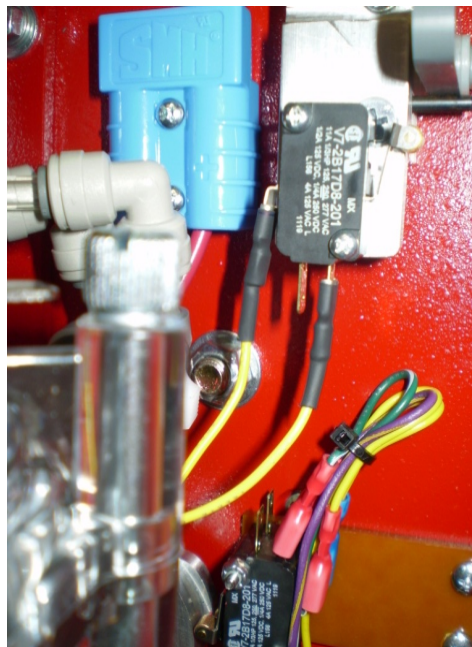

FIGURE 3
7. Remove the micro-switch from the kit and push the connectors from the long yellow wire onto the micro-switch. You will slide either connector (does not matter which) onto the terminal marked COM and NC (Normally Closed) Show in figure 3.